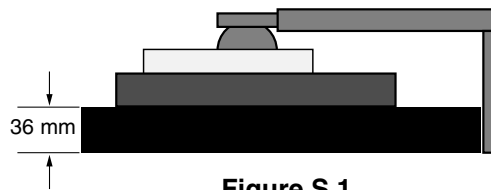

Figure S.1
3. Place monitor face down on a non-abrasive surface. (Place the screen on a 36 mm platform so that the stand is parallel with the surface) (**Figure S.1**).